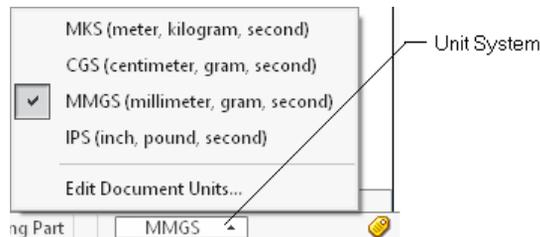

Figure 2-24 The flyout showing the currently selected unit system
- Click on the **Unit system** that is located in the Status Bar; a flyout is displayed with a tick mark next to the unit system of the current document, refer to Figure 2-24.